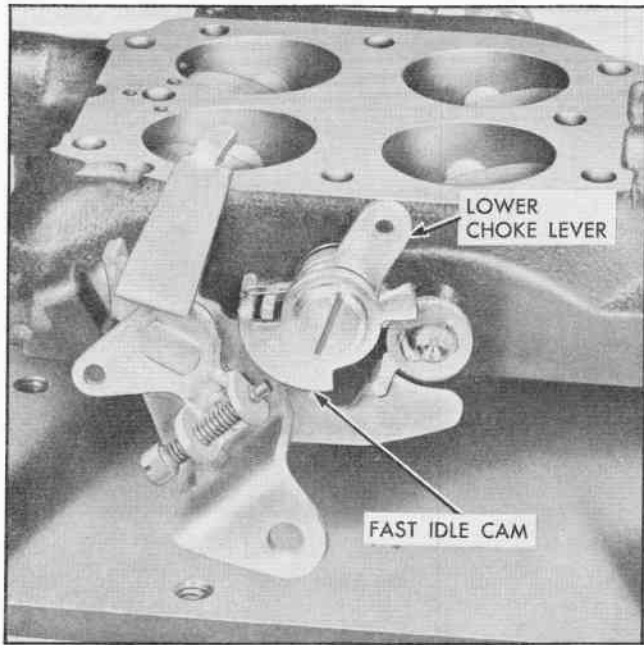

Fig. 22 Fast Idle Cam and Secondary Lockout Assembly
c. Install fast idle cam assembly with screw (assembled in step a) in position on boss (Fig. 22). Make sure cam and levers operate freely.